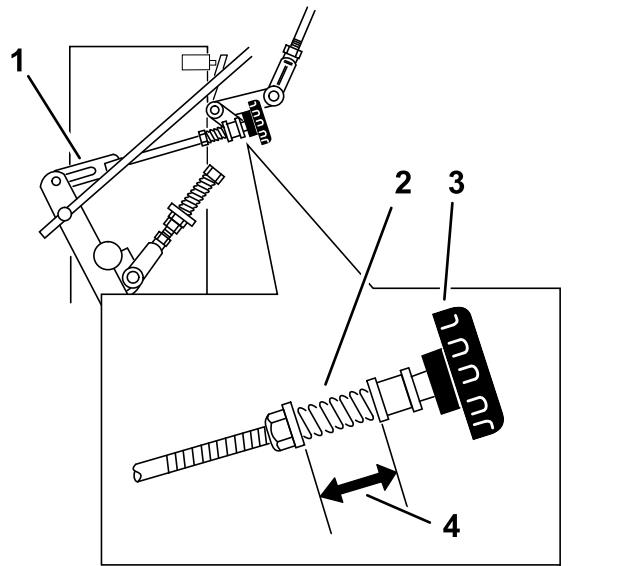

Figure 38
3. Adjust the right side linkage by turning the quick track knob counterclockwise until the tire begins to rotate forward (Figure 38).
NEUTRAL position. Repeat this until right wheel stops rotating forward (Figure 38).
6. The spring that keeps tension on the knob should normally not need adjustment. However if an adjustment is needed, adjust the length of spring to 26 mm (1 inch) between the washers (Figure 38).
7. Adjust spring length by turning nut at front of spring (Figure 38).